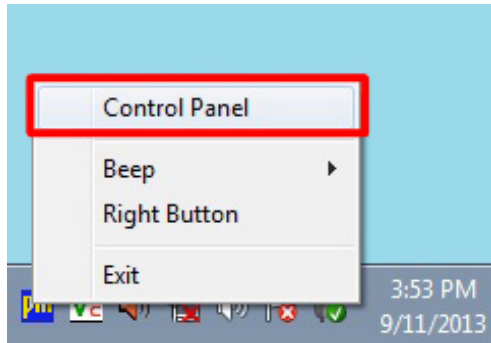

Figure 6-33: Select Control Panel
Step 2: Click **Control Panel** from the menu (**Figure 6-33**).